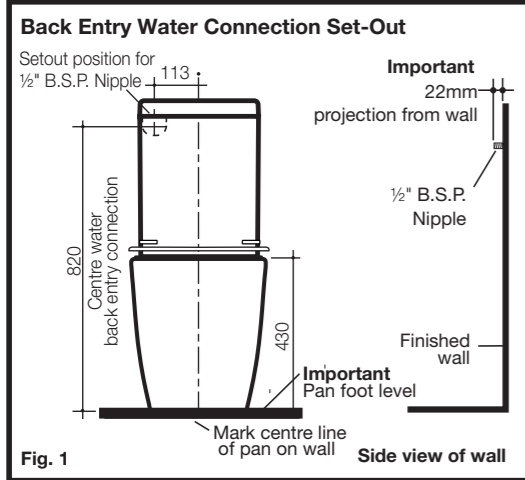
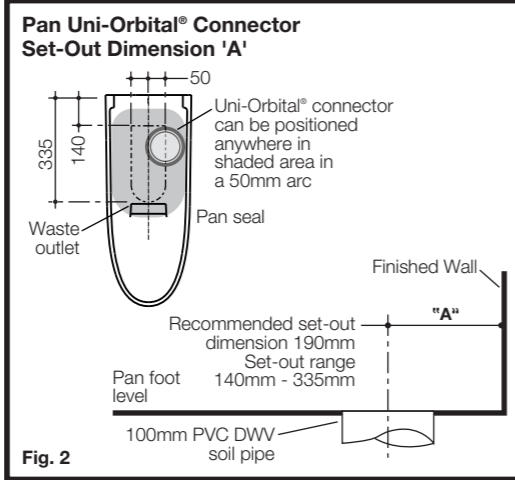
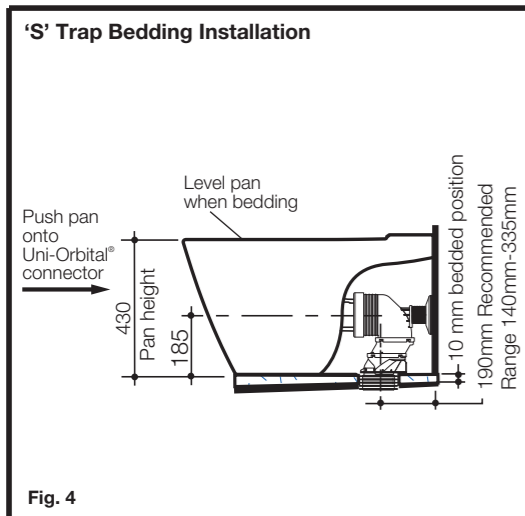
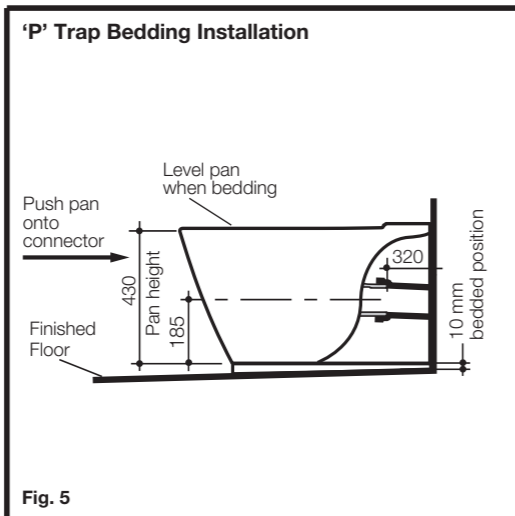

Fig. 1
Fig. 2
Fig. 4
Fig. 5
The Care 800 Cleanflush® toilet suite is universal for both 'S' and 'P'-Trap installations. The Caroma Care 800 Cleanflush® pan has a projection of 800mm and has been developed to comply with the requirements of A.S. 1428-1 for wheelchair access. The pan is universal for both 'S' and 'P'-Trap installations. The set-out range for the 'S' trap installation is from 140mm to 335mm and 50mm sideways adjustment with the Uni-Orbital® connector supplied (Code No: 416040). The recommended set-out is 190mm from the wall as detailed in Fig. 2.
For Care 800 Pan with Armrest Holes: The Uni-Orbital® connector can only move forward and backwards, not sideways. The 50mm sideways adjustment, as detailed in Fig. 2, cannot be incorporated with the armrest bracket installed.
If a setout range of 90mm-140mm is required, the optional Extended Uniconnector (Code No: 414260) can be used, this however will not allow for sideways adjustment, as detailed in Fig. 2.
- 1- Mark centre line of the pan on finished wall, as detailed in Fig. 1. This is to be used as a guide when connecting the pan. The centre line can be offset by up to 50mm from the soil pipe, as detailed in Fig. 2.
- 2- Determine set-out "A" of existing pan connector, as detailed in Fig. 2. Set-out range 140mm-335mm. Recommended set-out 190mm, as detailed in Fig. 4. For 'P' trap installation, see Fig. 5.
- 5- Position and push pan into connector using the marked centre line on the wall as a guide and level pan into bedding mixture, so that the back of the foot of the pan is approximately 10mm above the finished floor, as detailed in Fig. 4 & 5. It is recommended that wedges are used to support the foot of the pan during the positioning.